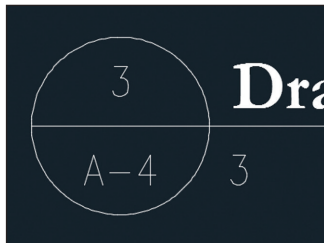

FIGURE 10.12 Edited text
1. Double-click the text in the lower semicircle of the callout symbol to invoke the `TEXTEDIT` command. The number 3 is highlighted. Type `A-4`, click outside the editing window on the drawing canvas, and press `Esc` to stop editing. The bubble now references the hypothetical drawing 3 on sheet A-4 (see Figure 10.12).